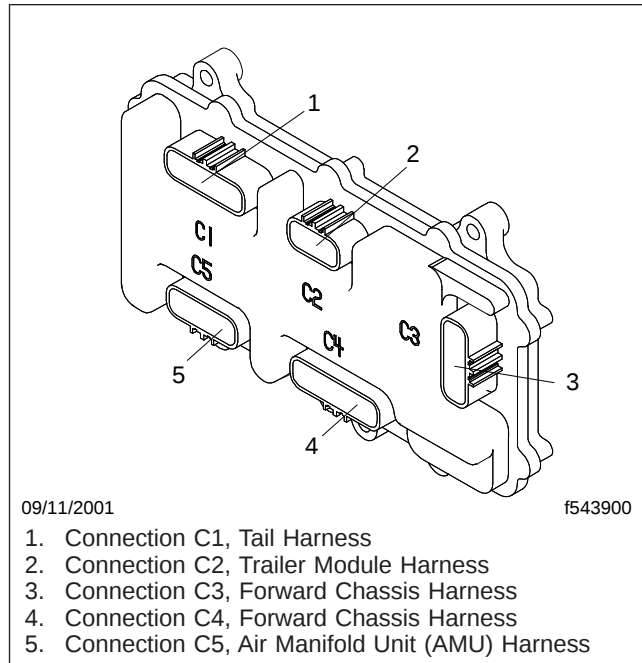

Fig. 1, Chassis Module
5. Disconnect connector C1 from the CHM. See Fig. 1.